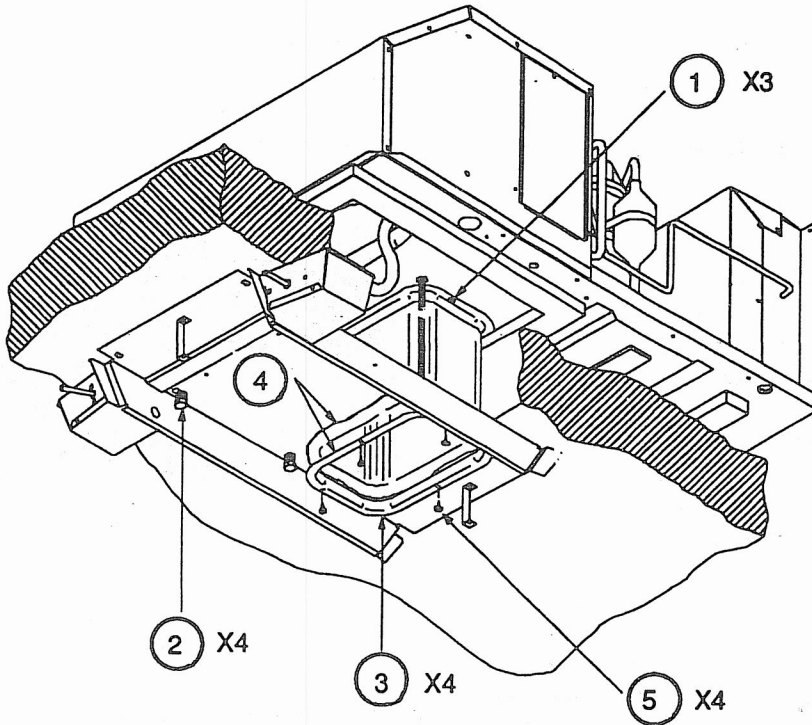

FIGURE 5
- D. On ceiling assemblies equipped with the Elect-A-Heat heater pkg. (heat/cool ceiling assemblies), detach the bottom heating element support plate by loosening the six (6) screws located around the outer edge. The heat element support plate can now be slid over the screw heads. The electrical connection plug will need to be disconnected before the heat element support plate can be removed. THIS ENTIRE STEP "D" IS NOT REQUIRED ON COOLING ONLY CEILING ASSEMBLIES.
- E. Before the ceiling assembly can be mounted to the roof top air conditioner, the fabric duct collar must be fastened to the basepan of the air conditioner with three (3) screws (See #1, Figure 5).
- H. Secure the ceiling assembly plate to the roof top air conditioner with the mounting bolts/washers (See #2, Figure 5). The mounting bolts/washers must be started (threaded) by hand to avoid cross-threading. DO NOT START THE MOUNTING BOLTS/WASHERS WITH AN AIR GUN. Mounting bolts should be tightened evenly. A rotation tightening procedure (similar to car tire rim mounting) is essential for proper gasket compression. Do not initially overtighten each bolt. The bolt tightening process is complete when the roof top air conditioner basepan gasket has been evenly compressed 50%.
- I. Pull fabric duct material through ceiling assembly discharge duct opening. Slit the 4 corners of fabric duct which extends below duct opening (See #3, Figure 5).
- J. Place metal flange in discharge duct opening, trapping fabric between it and the ceiling assembly (See #4, Figure 5).
- L. Fasten each side of the metal flange to the ceiling assembly with 4 screws (See #5, Figure 5). Trim any excess fabric that may extend beyond edge of metal flange.